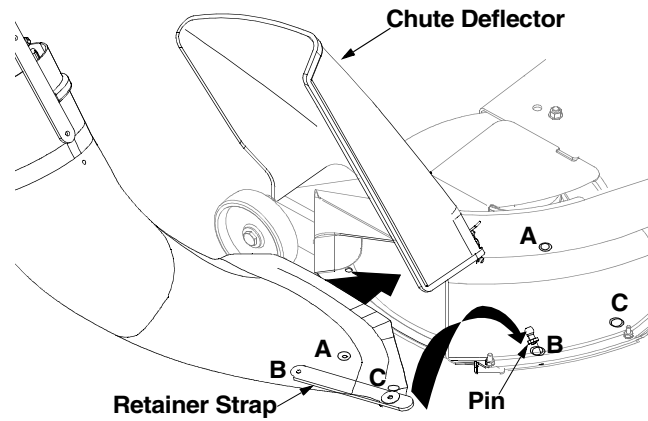

Figure 7
- Push down on the discharge chute so that its front bottom edge rolls over the bottom of the deck; then slide the chute forward to the stop on the deck. See Figure 7.
**NOTE:** The retainer strap is fitted at position B on the discharge chute. However, on older models of tractors, you may have to change the position of the strap depending on the location of the grasscatcher pin on the deck. Remove the retainer strap from position B on the discharge chute to position A or C corresponding to the position of the grasscatcher pin at A, B or C on the deck. See Figure 7.
- Lock the discharge chute in position by hooking the retainer strap over the grasscatcher pin on the deck. See Figure 7 for the pin position.